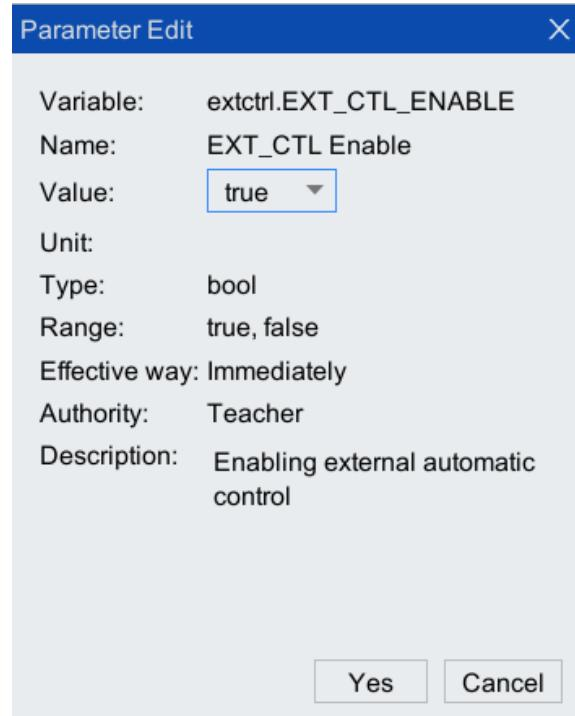

Figure 6-2 External automatic control enable configuration interface
Step2. Click to select the row where [EXT_CYL_ENABLE] (External Automatic Control Enable) is located, and click <Edit> at the bottom of the interface. The configuration interface shown in Figure 6-2 will pop up. The parameter in the configuration [Value] is "true", which means to enable the external automatic control function and click <Yes>.